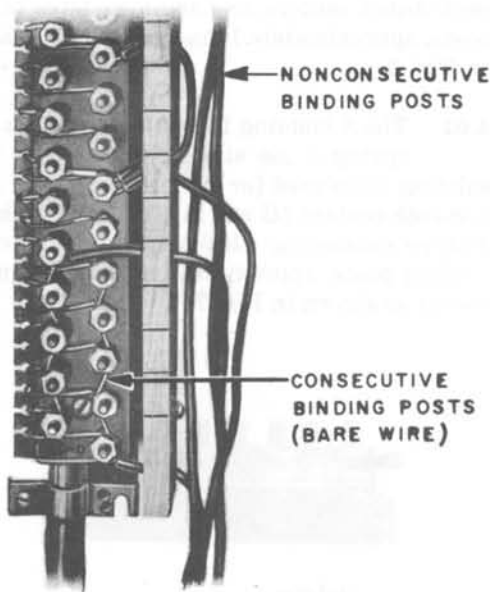

Fig. 8 — Use of Wire in Strapping Binding Posts
6.03 Wire may be used to strap binding posts, as shown in Fig. 8. The same type wire used in the wiring of the terminal is suitable for strapping binding posts.